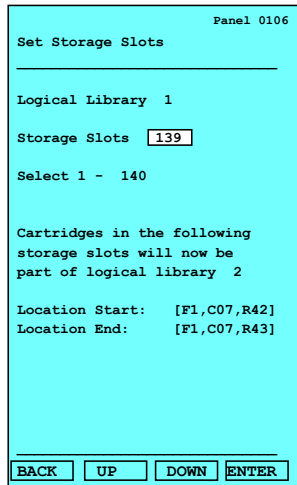

Figure 2-43 IBM TS3500 operator panel: Set Storage Slots
9. When the desired quantity of libraries displays, click **ENTER**. The Set Storage Slots panel displays (Figure 2-43).